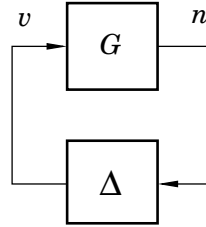

Figure 2.4 System in Problem 2.3.
- 2.3** Consider the system in Figure 2.4, where Δ is an unknown dynamical system, and G is a static TITO system